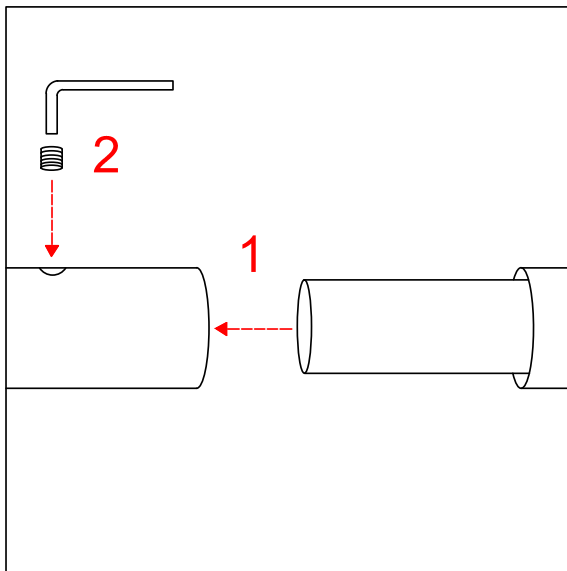

Fig. 3
- B. Insert splice connector (8" to 10" long piece of tubing that is ¼" smaller in diameter than the rod) halfway into each rod end. [Fig. 3]